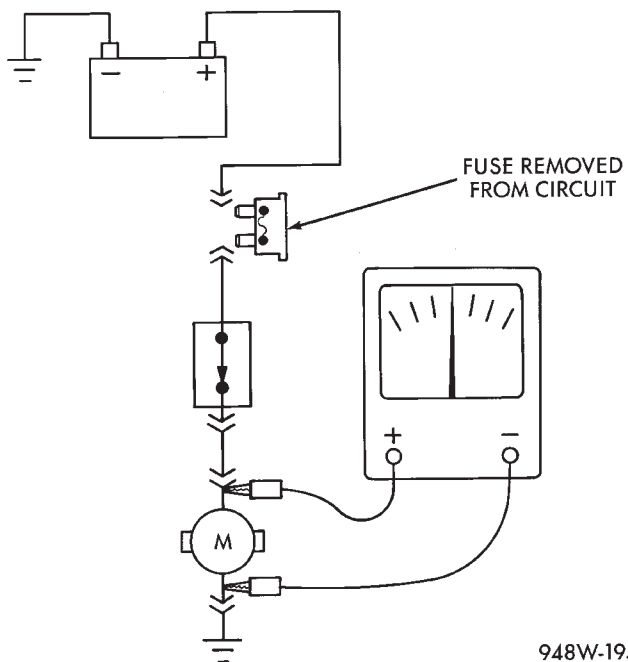

Fig. 7 Testing for Continuity
(1) Remove the fuse for the circuit being checked or, disconnect the battery.
(2) Connect one lead of the ohmmeter to one side of the circuit being tested (Fig. 7).
(3) Connect the other lead to the other end of the circuit being tested. Low or no resistance means good continuity.